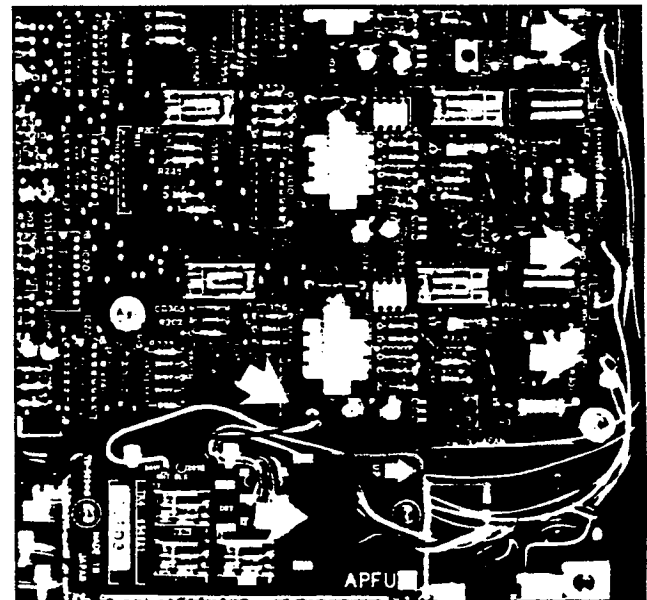

FIGURE 10—APFU CONNECTIONS
07.22 Connect the 8-pin jack (from the OPL jack) into the P1 plug on the APFU (Figure 10).
07.23 Refer to Figure 10 and connect the four 2-wire jacks from the APFU to their respective plugs on the top and right side of the ACOU as follows: